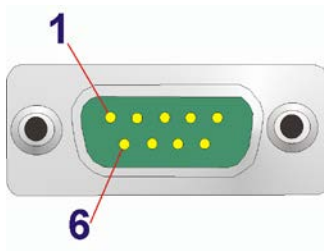

Figure 3-17: RS-422/485 Serial Port Pinout Locations
- CN Pinouts:** See Table 3-7 and Figure 3-17